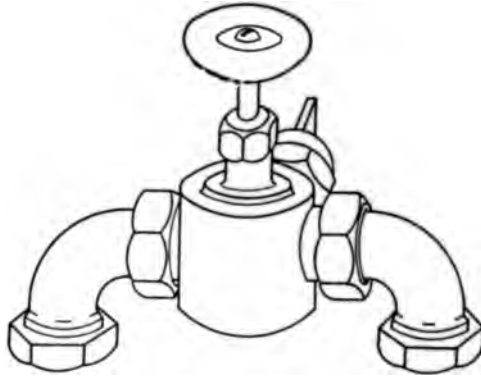

Fig. 90.—Honeywell Unique Radiator Valve.
A. Several special types of hot water radiator valves are manufactured; these are used principally in making a flow and return connection to a radiator when both connections are made at or through a single opening at one end of the radiator. The Honeywell Unique radiator valve, Fig. 90, is an illustration of a valve of